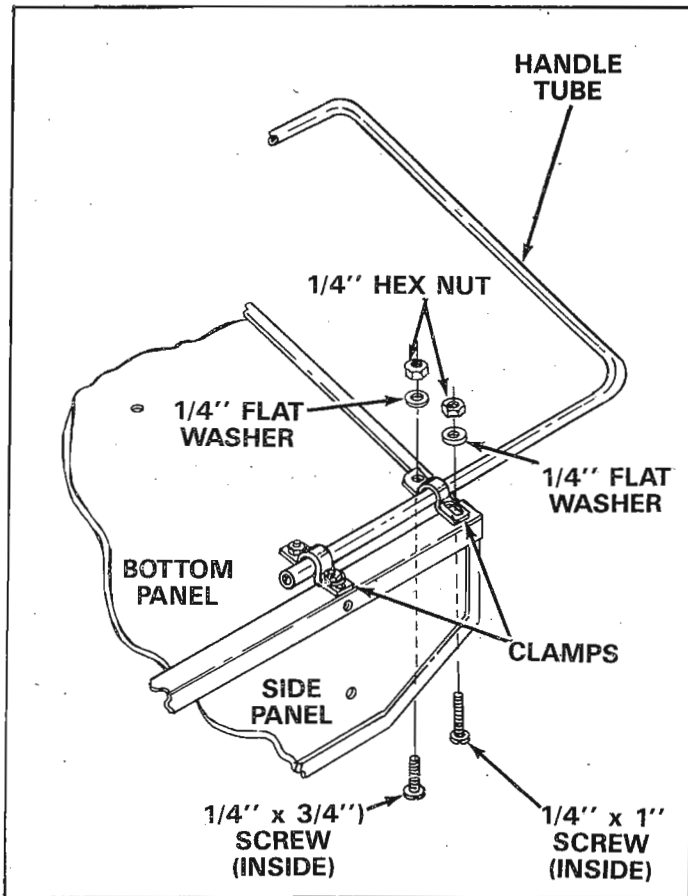

FIGURE 9.
- Turn the cart upside down. Place the handle tube on bottom of cart as shown in figure 9. Place the four clamps over handle tube **with the longer leg of clamp to the outside edge of cart.** See figure 9.
The length of the handle tube can be adjusted by sliding in or out before tightening the four clamps. See figure 9.